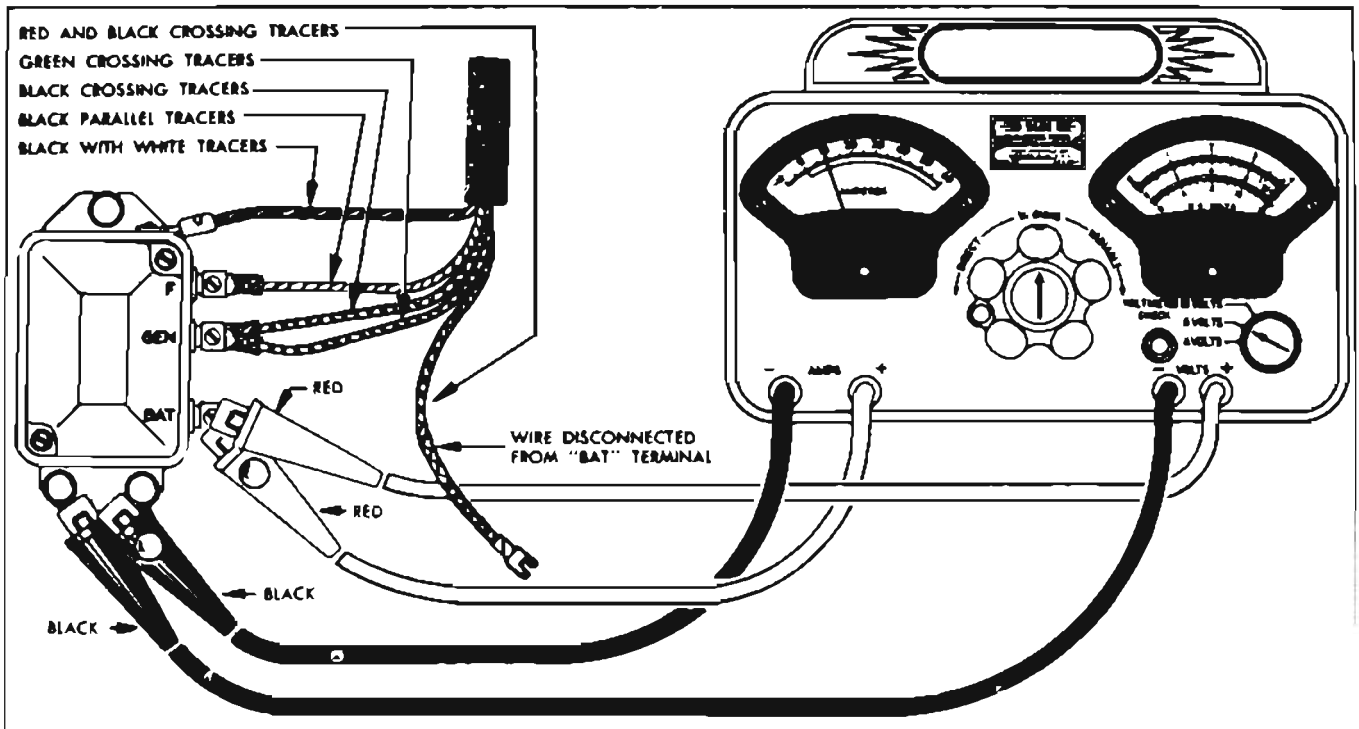

Figure 10-19—Voltage and Current Regulator Test Connections—Sun Volts Ampere Tester
14. When regulator reaches operating temperature, stop the engine. Turn tester Control Knob to the " $\frac{3}{4}$  OHMS" position. Change red voltmeter test clip from the "GEN" to the "BAT" terminal of regulator, where red ammeter test clip is already connected. Disconnect black ammeter test clip from car battery wire and connect it to good ground on regulator base plate. See figure 10-19. **CAUTION:** *Do not allow disconnected car battery wire to touch metal.*
18. If either the voltage or current regulator did not operate within specified limits, remove regulator cover and adjust armature spring tension as required. Turn adjusting screw clockwise to increase operating voltage or charging rate; turn counterclockwise to decrease operating voltage or charging rate. See figure 10-19. *The final setting must always be made by turning screw clockwise to increase voltage or charging rate—never by turning screw counterclockwise.*